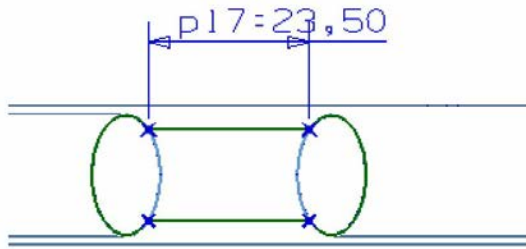

Figure 10-118 The first section curve drawn to create the through curve mesh surface
- Create the studio surface as the third feature, refer to Figures 10-118 through 10-122.
3. Select the edges of the sweep surfaces and create a profile, as shown in Figure 10-118. Exit the Sketch in Task environment.